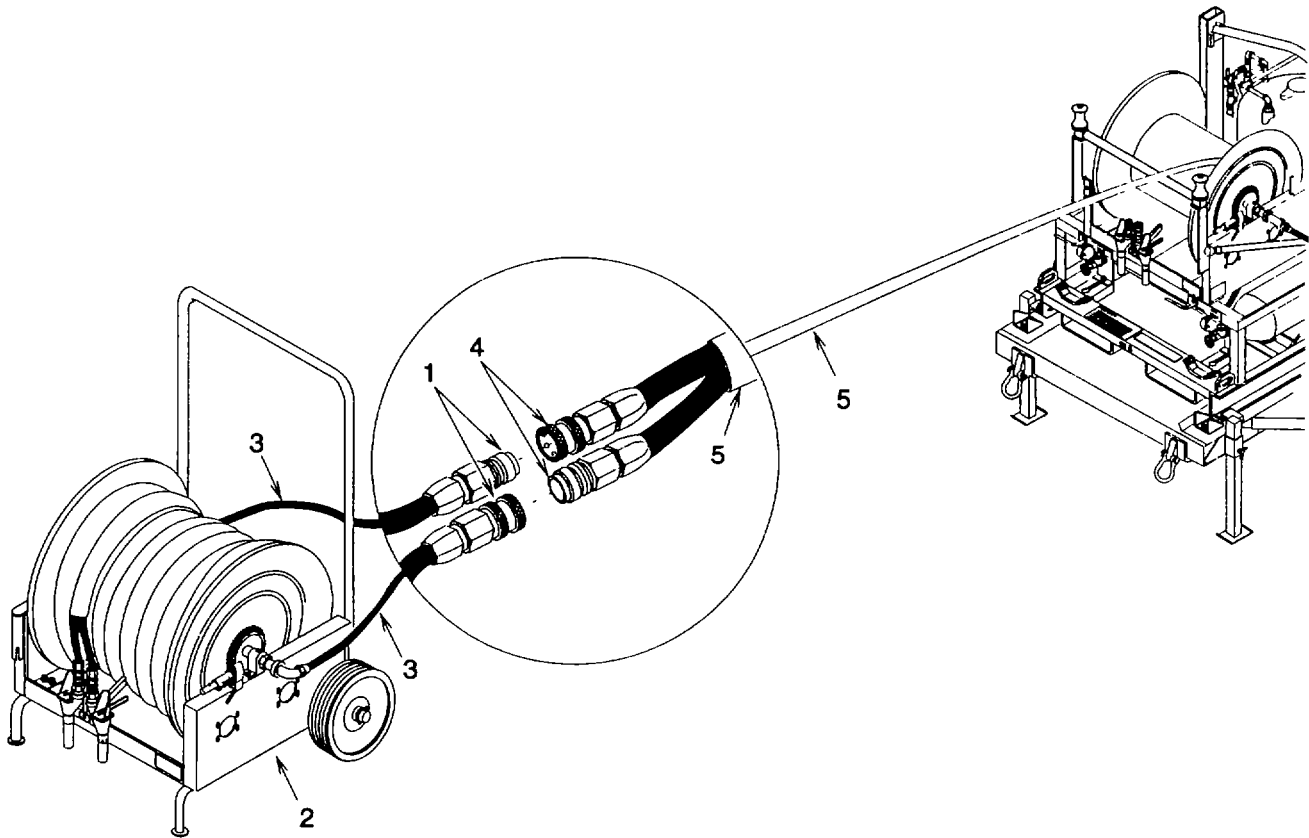

Figure 2-12. Auxiliary Mobile Hose Reel Cart Hose Connection
- (4) Release coupling halves (1) (fig. 2-12) on auxiliary mobile hose reel cart (2) and separate hose assemblies (3).
- (5) Connect coupling halves (4), from hose assembly (5), to hose assemblies (3).
- (6) Proceed to step c.